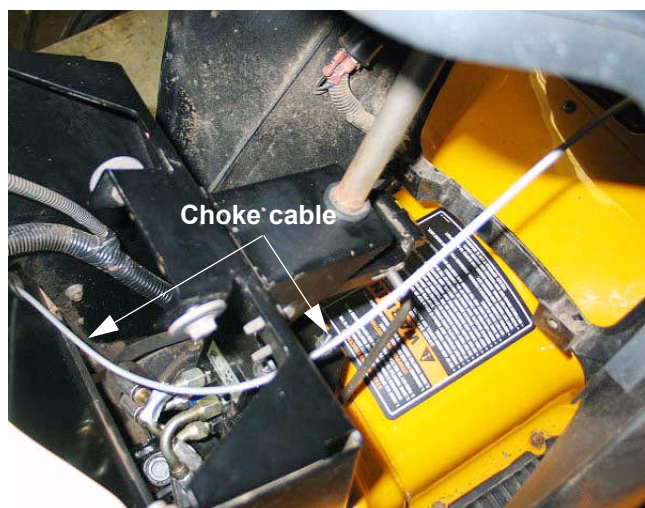

Figure 1.23
1.23. The choke cable on gasoline engined tractors passes through the large opening in the pedestal, below and to the left of the steering column bracket. See Figure 1.23.